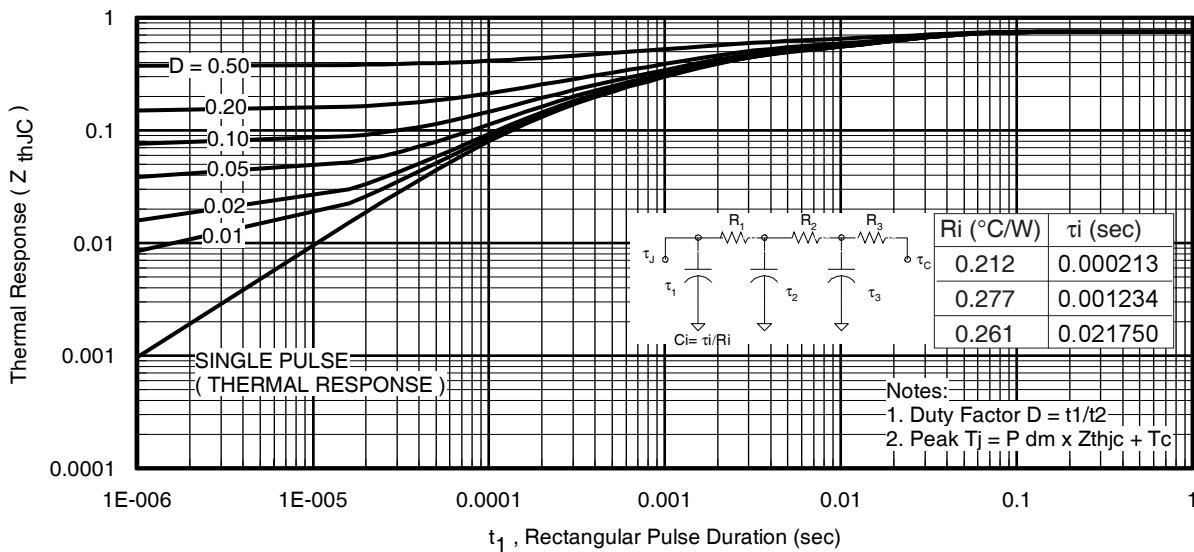
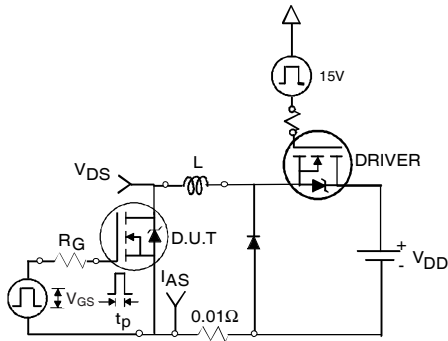

Fig 11. Maximum Effective Transient Thermal Impedance, Junction-to-Case
Fig 12a. Unclamped Inductive Test Circuit
- ① Repetitive rating; pulse width limited by max. junction temperature. (See fig. 11).
- ② Limited by T_{Jmax} , starting $T_J = 25^\circ C$, $L = 0.066mH$, $R_G = 25\Omega$, $I_{AS} = 75A$, $V_{GS} = 10V$. Part not recommended for use above this value.
- ③ Pulse width $\leq 1.0ms$; duty cycle $\leq 2\%$.
- ④ C_{oss} eff. is a fixed capacitance that gives the same charging time as C_{oss} while V_{DS} is rising from 0 to 80% V_{DSS} .
- ⑤ Limited by T_{Jmax} , see Fig.12a, 12b, 15, 16 for typical repetitive avalanche performance.
- ⑥ This value determined from sample failure population. 100% tested to this value in production.
- ⑦ This is only applied to TO-220AB package.
- ⑧ When mounted on 1" square PCB (FR-4 or G-10 Material). For recommended footprint and soldering techniques refer to application note #AN-994.
- ⑨ TO-220 device will have an R_{th} value of $0.65^\circ C/W$.
- ⑩ Calculated continuous current based on maximum allowable junction temperature. Bond wire current limit is 160A. Note that current limitations arising from heating of the device leads may occur with some lead mounting arrangements.
3. Equation below based on circuit and waveforms shown in Figures 12a, 12b.
$Z_{thJC}(D, t_{av})$ = Transient thermal resistance, see figure 11)